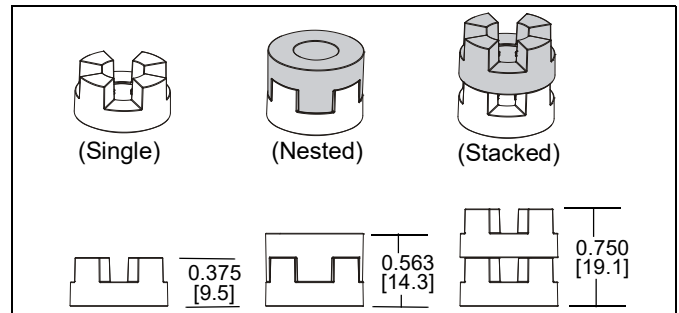

Figure 11
NOTE: The nesting spacers (G) may be used separately, or put two together in different configurations to create different size spacers. (See Figure 11)